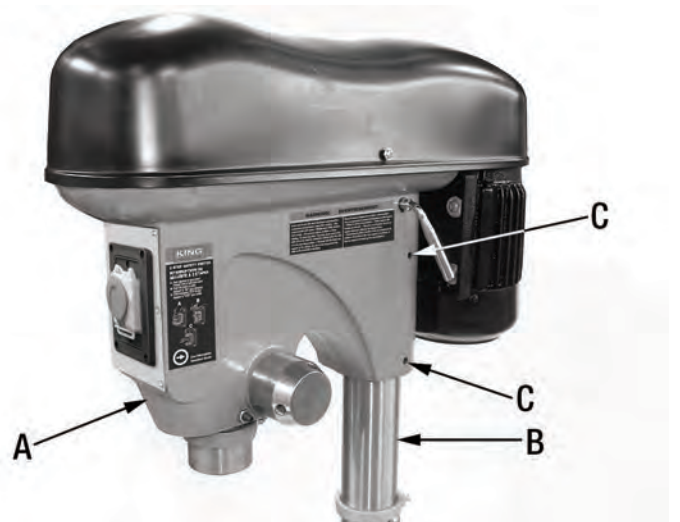

FIGURE 11
- 1) Carefully lift the head (A) Fig.11 above the column (B) and slide it down on the column as far as it will go. Align the head with the table and the base.
- 2) Using a 5 mm hex. key, tighten both head set screws (C) on the right side of the head.